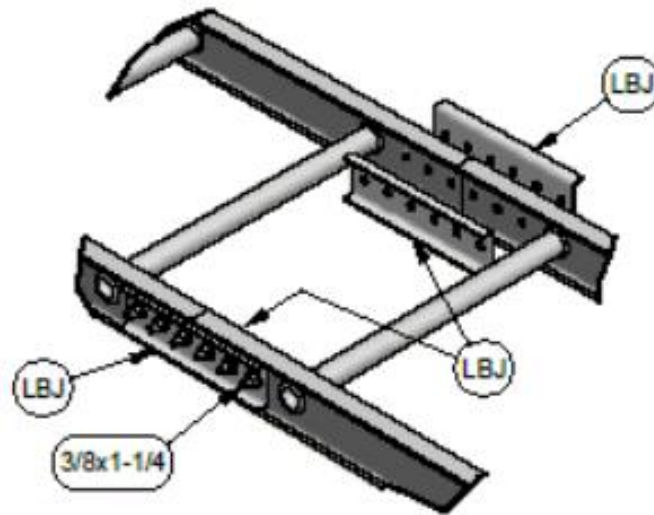

Figure 13. Ladder Splice
4. If the ladder shipped in two sections assemble ladder sections together using supplied hardware. The shorter ladder section will be installed towards the top of the unit. See **Figure 13**.